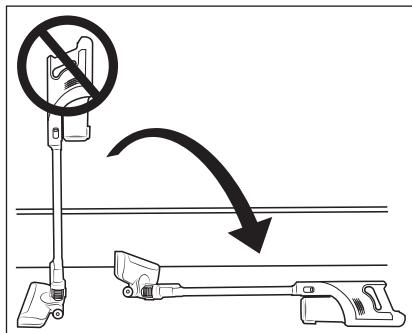

Fig. 9
- The suction openings of the appliance and the floor brush ② and the suction pipe ④ must be free at all times and must not be blocked. Blockages lead to overheating and damage to the motor.
- Make certain that the EPA dust filter ⑤ is always inserted before using the appliance.
- Do not try to place the vacuum cleaner upright when you want to put it down or take it out of your hand in the meantime. To do this, place the vacuum cleaner in the wall bracket ⑯ or lay it on the floor (see Fig. 9 and 10). Due to its high centre of gravity, the vacuum cleaner may otherwise tip over and be damaged and possibly damage other objects when tipping over.